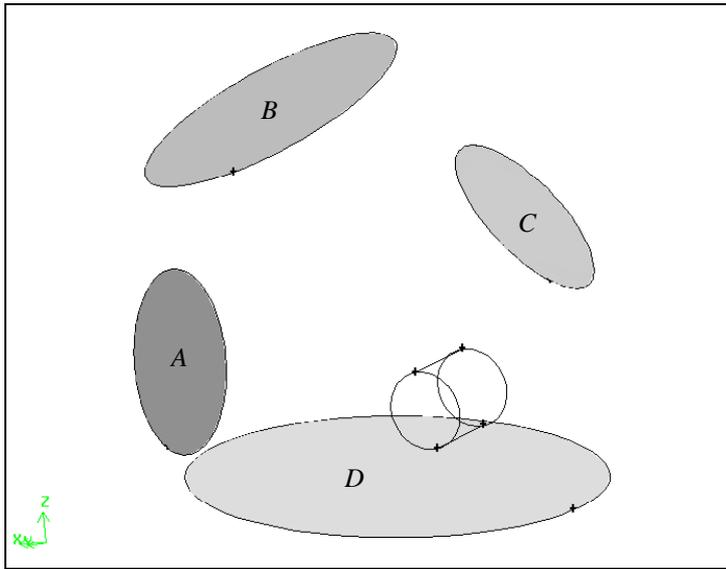

Figure 13-18: Four large, circular faces to be meshed
- a) Select the four large, circular faces (A, B, C, and D) shown in Figure 13-18.